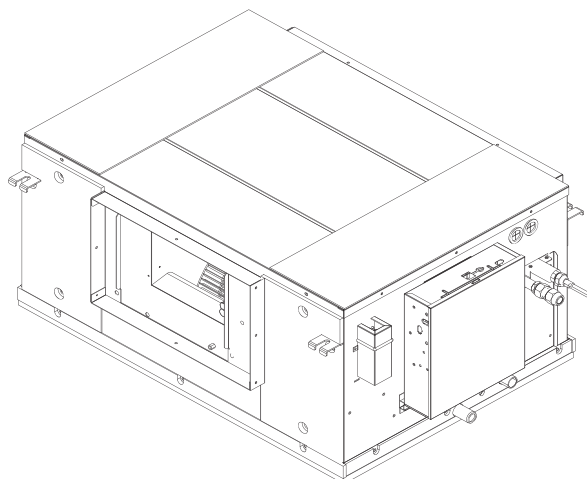

Fig.4-11
1. The whole unit status show as Fig.4-11